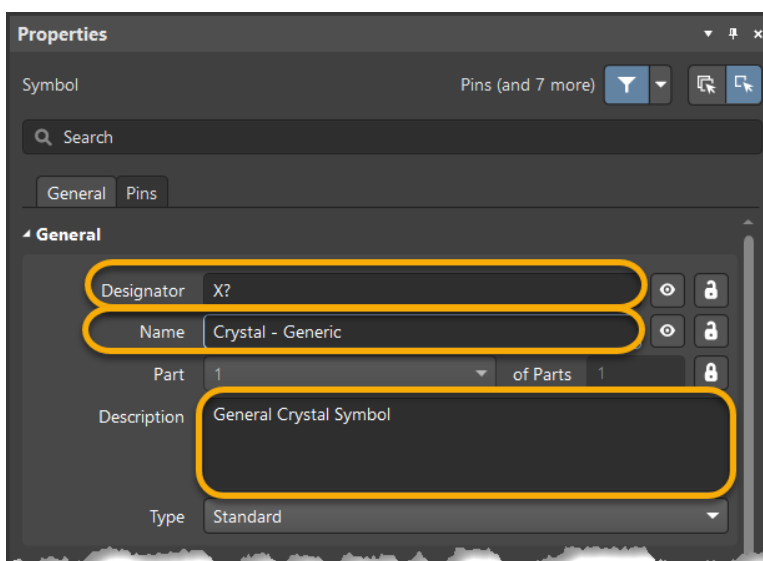

Figure 10. Symbol Properties
12. In the *Properties* panel enter the following information, Figure 10: